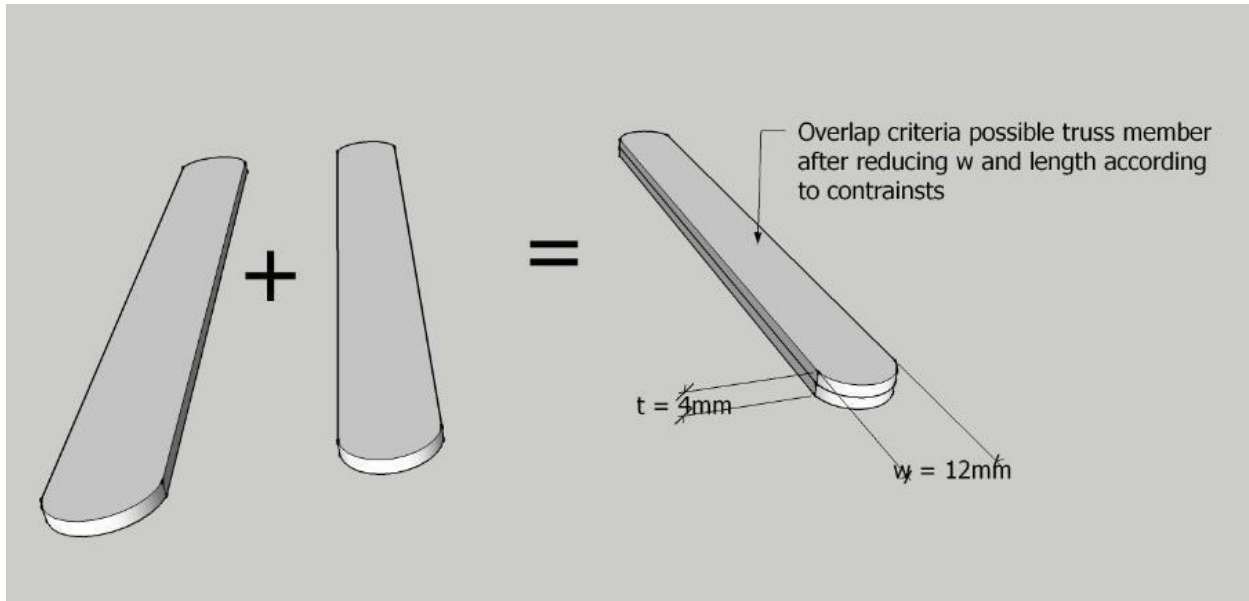

**FIG. 1 (The base should not be fixed, use counter weights to balance)**
4. A pulley arrangement with a thread should be prepared as shown in fig. 1 for application of load.